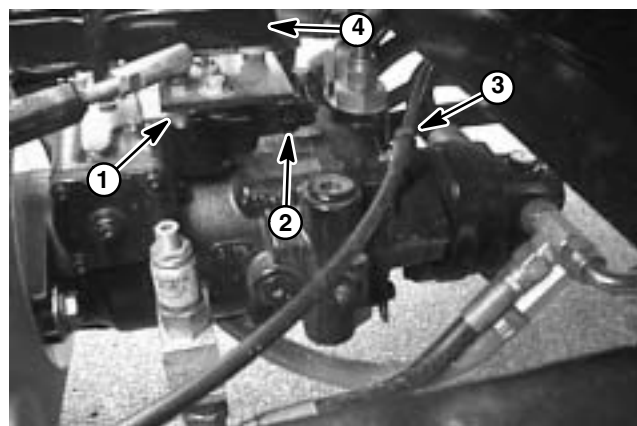

Figure 31
4. Remove traction rod from control plate on piston pump by removing lock nut (Fig. 31).
5. Disconnect two (2) wires from neutral switch on piston pump (Fig. 31).
6. Remove flange head screw and flange nut that secures R-clamp and right side brake cable to pump assembly (Fig. 31).
3. Carefully raise pump assembly and position it to the engine. Make sure that both bushings on control plate are between centering arms on rear of engine (Fig. 31).
4. Align spline teeth and slide piston pump input shaft into engine coupling spline. Support pump to prevent it from falling while installing two (2) cap screws, lock washers and flat washers to secure pump to engine bell housing.
5. Secure traction rod to control plate on piston pump by installing lock nut (Fig. 31).
6. Connect two (2) wires to neutral switch on piston pump (Fig. 31).